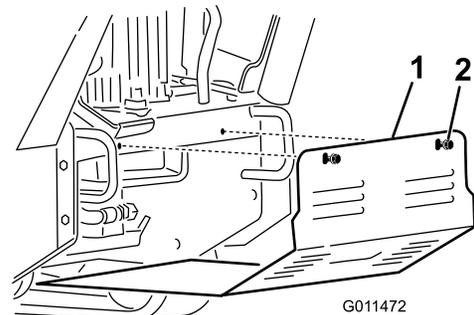

Figure 24
3. Loosen the 2 bolts securing the bottom shield sequentially until the shield is free (Figure 24).
5. To install the shield before operating the machine, slide the bottom shield into the machine so that it rests on all 4 tabs and secure it with the 2 bolts you loosened previously (Figure 24).